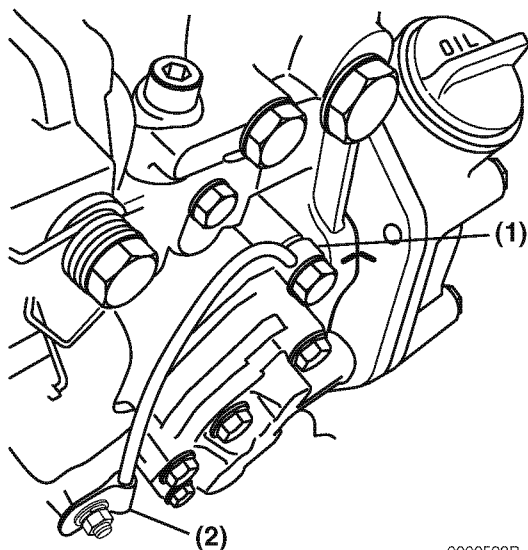

Figure 7-33
7. Reconnect the throttle linkage and the stop solenoid connector (**Figure 7-33, (2)**).
8. Reconnect the lube oil line (**Figure 7-33, (1)**) and clamp (**Figure 7-33, (2)**).